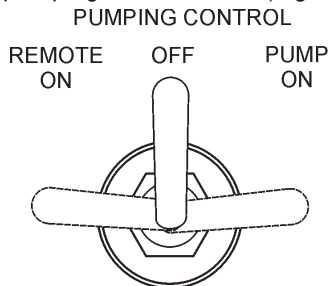

Figure 21. Pumping Control Switch (OFF)
2. Place the pumping control switch (Figure 21) in the **OFF** position.
1. Place the pumping control switch in the **OFF** position (Figure 21).